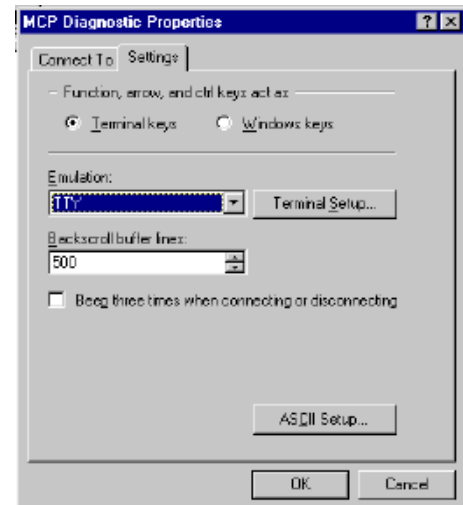

Figure 5-4. “dfg Properties” Screen
9. Go to File => Properties. The “MCP Diagnostic Properties” screen displays (Figure 5-4).